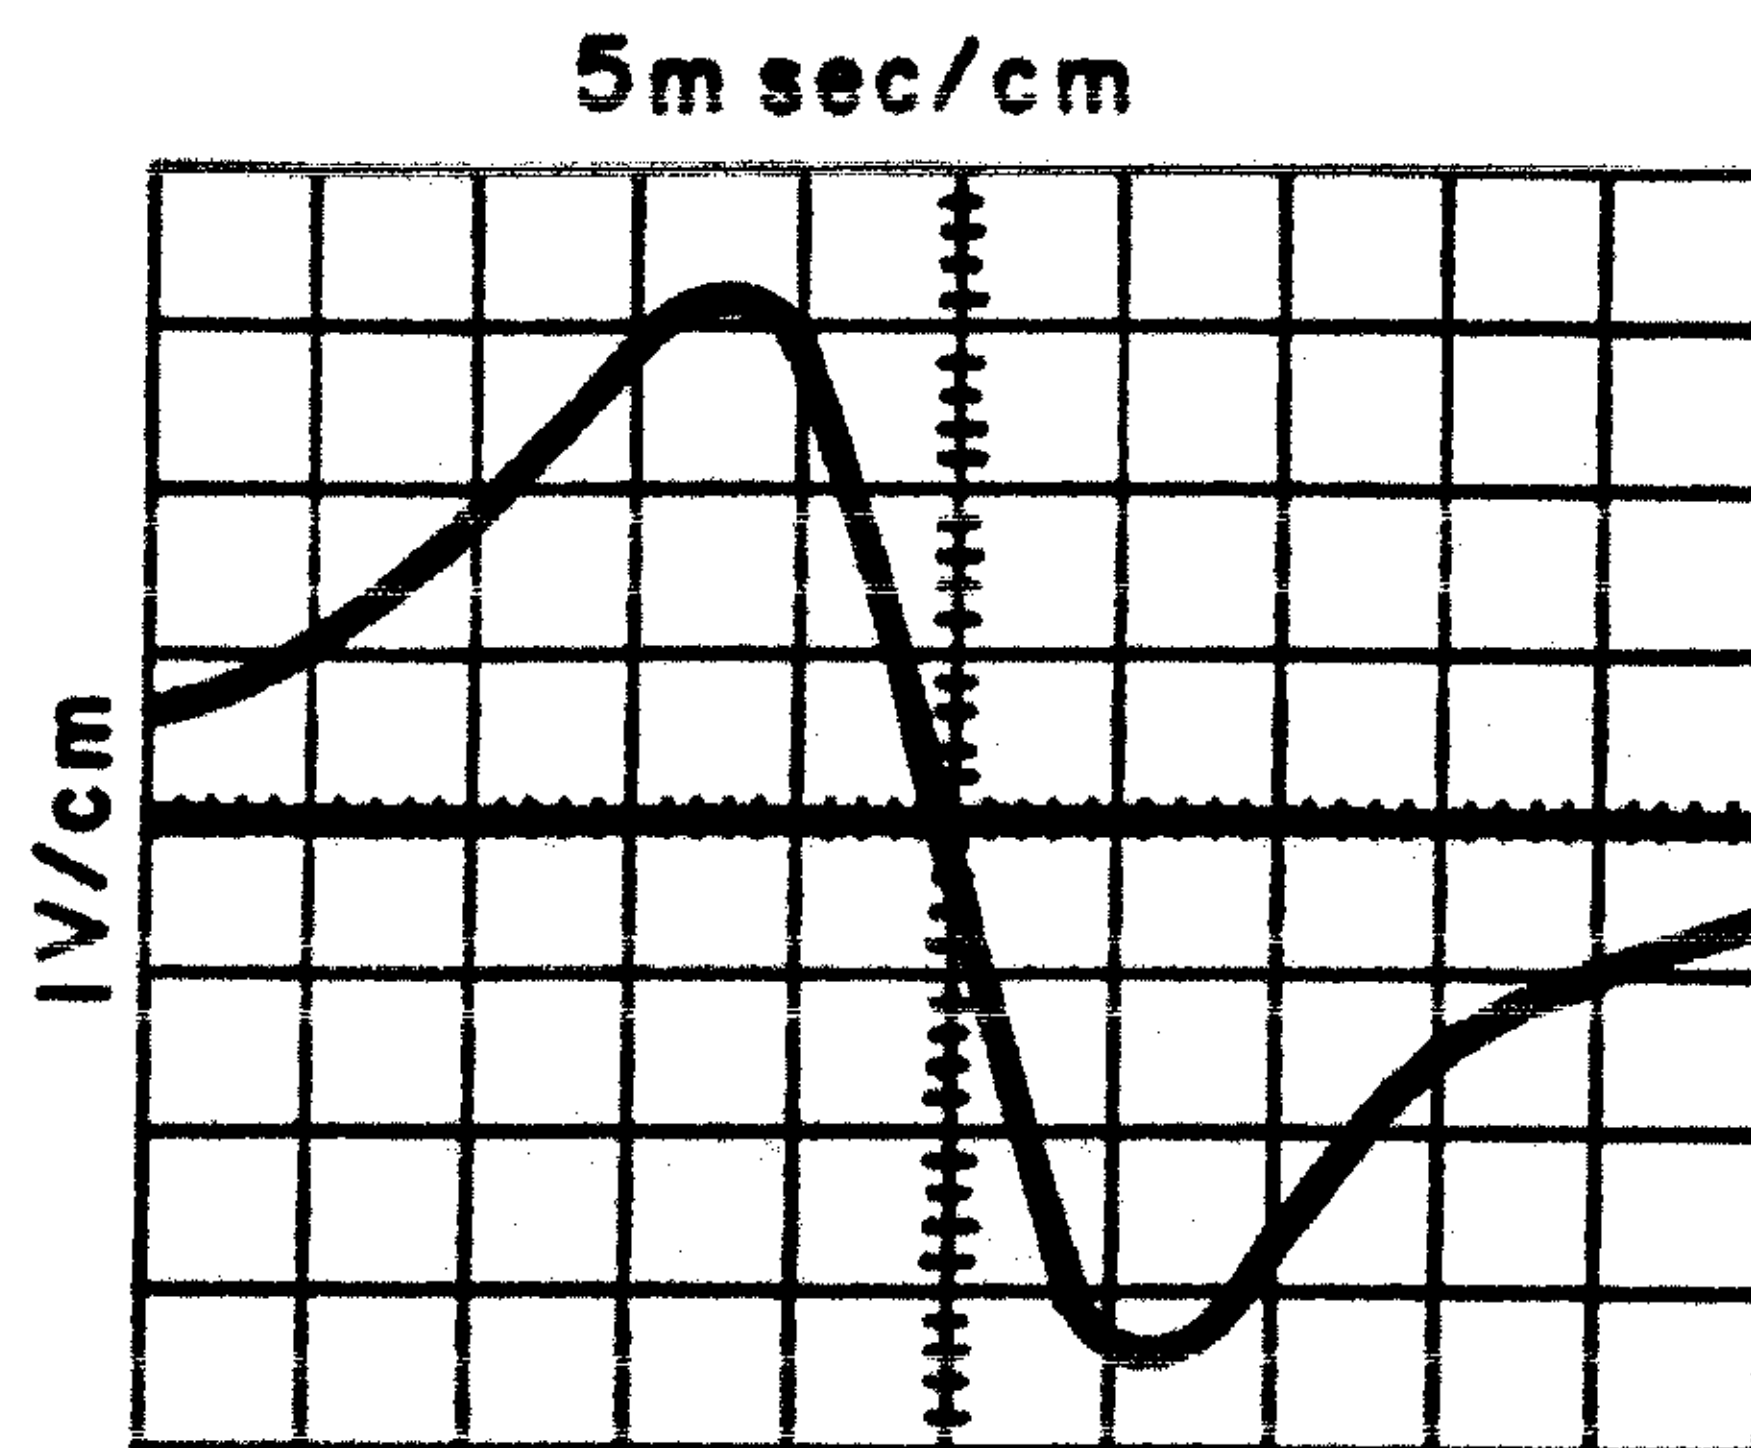

Figure 4-10. FM Discriminator Alignment, Typical Response
9. Adjust A4A9L1 and A4A9T1 for an Oscilloscope waveform which has maximum amplitude and is symmetrical and linear about the marker. See Figure 4-10 for a typical waveform.